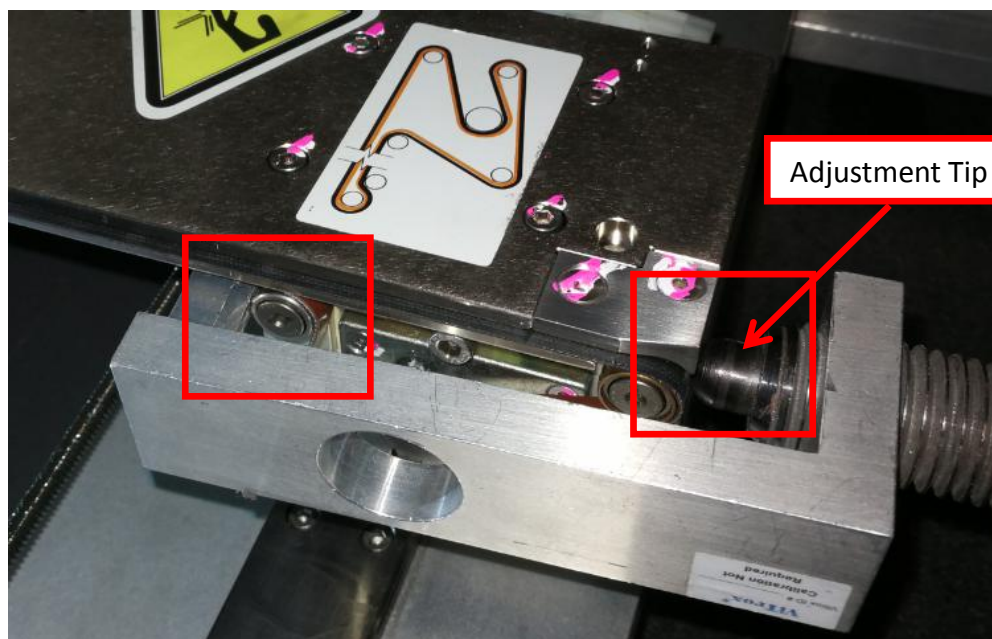

Figure 10 Belt Tension Kit Placement
- b) Gently rest Belt Tension Adjustment Tip on Tiny Opening as below Figure 10 ,while other end will require to hook with the Tension Pulley.